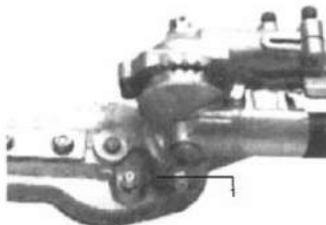

Fig.HT16
c. Side the gearcase out of the tube. Using a grease gun, pump lithium-base grease (about 10 grams) into the grease fitting on the gearcase until you see old grease being purged from the gearcase (Fig.HT16). Purged grease will be visible in the outer tube cavity. Clean up the excess grease and then reassemble the gear case onto the outer tube.